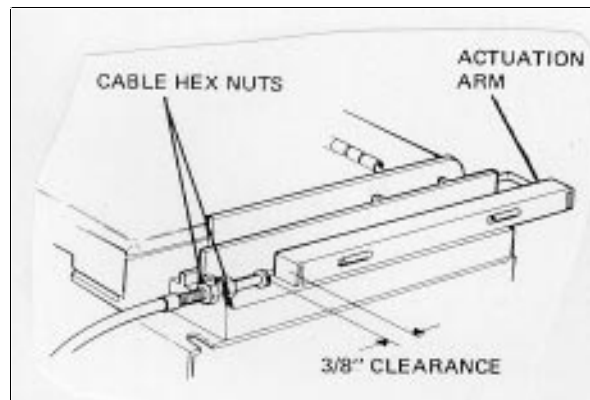

Figure 5-15. "Pre-View" Cable Adjustment
4. "Pre-View" Cable Adjustment (figure 5-15)
b. Turn the cable hex nuts up or down to obtain the 3/8 inch dimension shown in figure 5-15. When this dimension is obtained, tighten the hex nuts finger tight.